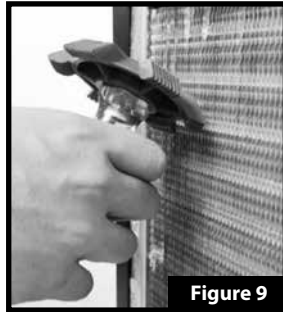

Figure 9
4. If you see some wretched fins fix the aluminum fins with a fixing tool. It allows the air to flow easily and increase the condenser capacity. **“Figure 9”**.